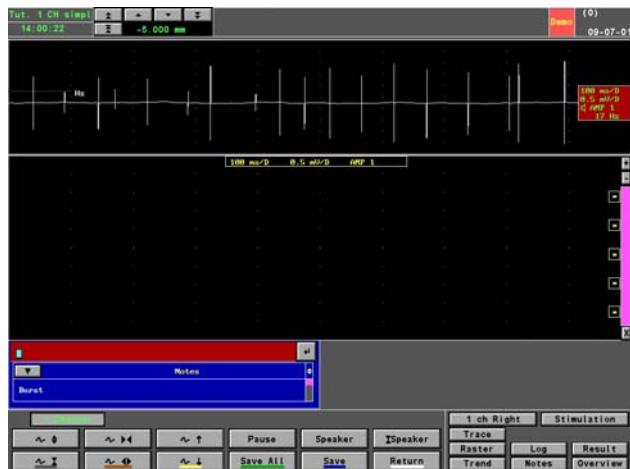

Figure 46 Information Box and Changed Function Buttons
- Then you select trace 1 by clicking on the information box situated to the right of the trace in the Trace Window, see Figure 46 below. This may be performed by using the dedicated keyboard, too if you are not in demo mode. Please see the section on Information Box Values page 12 for further information on the dedicated keyboard.
A number of additional controls are provided in a small toolbar in the upper-left of the screen, see Figure 46 above. These controls make it possible to decrease, or increase the distance to the target by mm macro steps and by mm micro steps. For further information on Small Toolbar Controls, please see page 24 in the section on the Electrode-positioning System.
- Click and now you can move the trigger line in up- and downward directions see Figure 46 above.
Altering the sweep speed via the function buttons, see Figure 46: